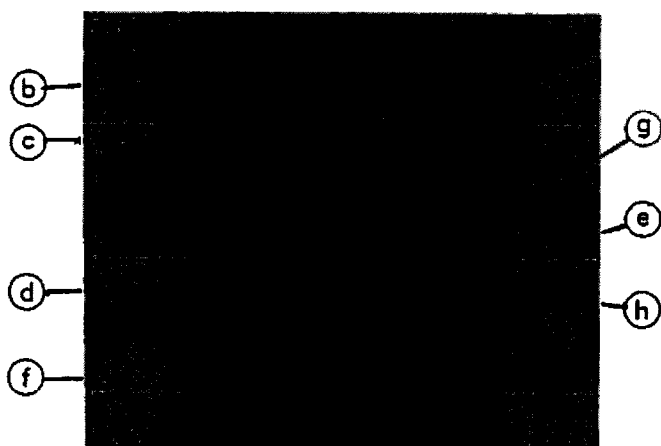

Figure 11. Levering-In Mechanism and Interlocks
The breaker is moved between the disconnected and connected positions by the levering-in device. This consists of a shaft which is supported by the breaker frame side sheets, and which has a crank arm at each end (Figure 1). Rollers attached to the crank arms engage vertical slots in plates attached to the cell and rotation of the shaft causes the breaker to move in and out of the breaker housing. The levering-in shaft supports a worm wheel at its right end just inside the right breaker side sheet (Figure 11). The worm wheel is rotated by a worm gear on a shaft which is terminated in a hexagon drive nut attached by a shear pin. The shaft points in a direction from the front to the back of the breaker. This hexagon shaft has a threaded portion carrying a threaded plate. As the shaft is rotated, the threaded plate moves along the worm shaft until it encounters either a front or a back sleeve attached to the shaft and further rotation of the worm shaft is prevented. At this time, the position indicator on the front of the breaker will indicate that the breaker is either in the connected or disconnected position. A socket-head bolt mounted on the left side sheet serves as a backup to the threaded plate, providing a positive stop to left crank arm.
Access to the hexagon drive nut on the levering-in device is restricted by a shutter on the front panel of the breaker (Figure 11). This shutter is pivoted on the breaker frame and has a projecting pin which engages a slot on a cam on the levering-in shaft. This particular cam has two (2) slots arranged so that the shutter can only be in its upward position when the levering in cranks are in the connected, test or disconnected position. The shutter cannot be moved downward until the trip plate is pushed inward and the secondary disconnect plug is inserted. Pushing the trip plate inward moves one prop out of the way of the shutter. Insertion of the secondary plug pushes the blocking plate backward and rotates a second prop out of the way of the shutter. Then, downward movement of the shutter causes a lever operating in parallel with the shutter to move downward, and a projecting pin on this lever disengages a second cam located next to the shutter cam. Downward movement of the lever moves a bolt which locks the secondary disconnect plug in its connected position. The second cam has only one slot and the lever can only move upward when the levering-in shaft is in the disconnected position. To summarize the action of the levering-in interlocks; the worm gear shaft shutter cannot be depressed until the breaker is tripped by pushing on the trip plate and the secondary disconnect plug is inserted. Downward movement of the shutter causes its interlock pin to move out of its cam plate. It also pushes a locking bolt downward to lock the secondary disconnect plug in position. The bolt cannot return upward in any other position than disconnect because it is restrained by a cam having only one slot.